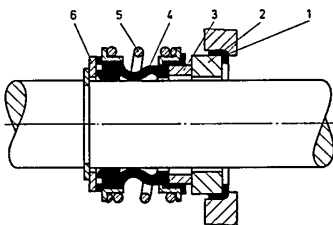

Fig. 6.2.3.4a
1. Stressed mechanical seal independent of direction of rotation with elastomer bellows (fig. 6.2.3.4a)